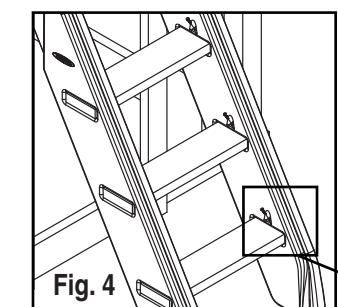

Fig. 3
Assembly to the play deck using three #14 x 1¼" pan head screws on each side as shown. (Fig. 3)
3. Install the Climbing Steps Assembly to your tower. Position the Climbing Steps Assembly into the 21½" opening of your play deck so that the top surface of the top step is 12" from the top surface of your play deck (48" from the ground). Secure the Climbing Step Assembly to the play deck using three #14 x 1¼" pan head screws on each side as shown. (Fig. 3)